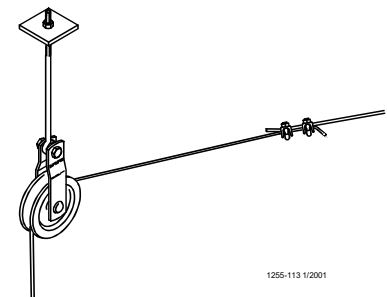

Figure 13. Full Line Suspension
Suspend the hopper, as shown in **Figure 13. on page 15** by routing the cable around the Full Line Suspension Pulley and fastened to the main cable, using (2) cable clamps.